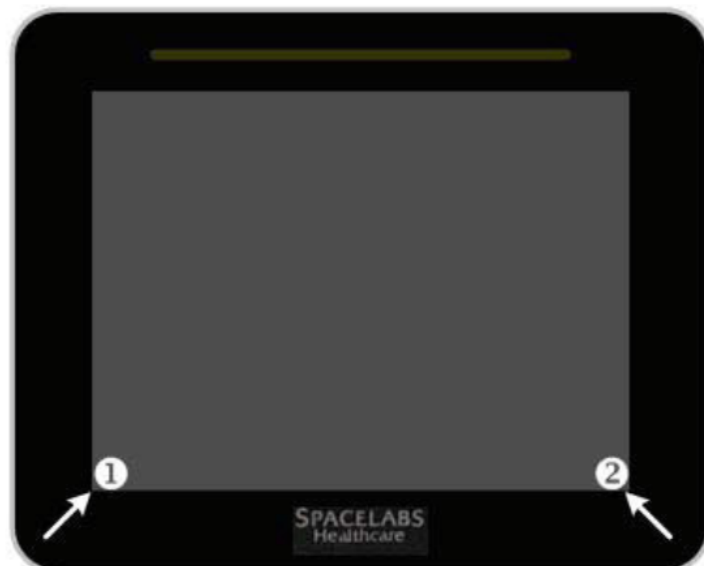

Figure 5-2 Touch Points to Enter Extended Diagnostics
- **Touchscreen** — Touch the bottom left and then the bottom right corner (not simultaneously) of the screen (Figure 5-2 on page 5-4).